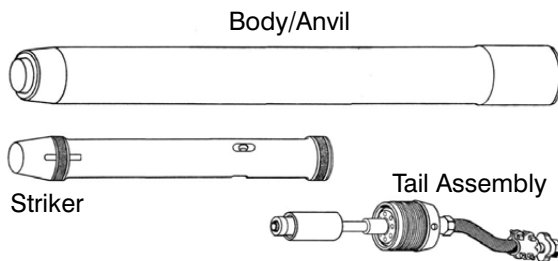

Figure 8-6. Tail Assembly and Striker Removed from Body/Anvil.
- 6. Once the Striker (2) is accessible, lower the Body/Anvil (1) to the level surface and block it to prevent rolling. Pull the Striker from the Body/Anvil by hand as shown in Figure 8-6.